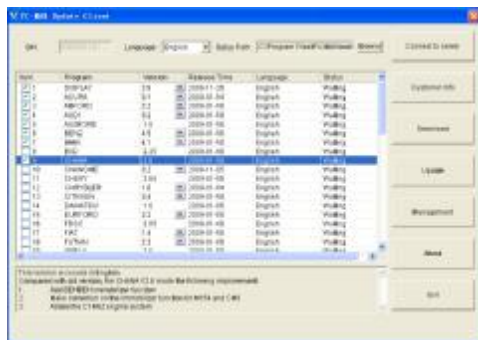

Fig.2-7 Download interface
- (1) Choose the language version and browse the setup path on the top of update client. The default path is "C:\Program Files\PC-MAX\work".
- (2) Tick the small box before the relevant program as shown in Fig.2-7;
- (3) Click on the button **[Download]** in right column to enter download status. Programs that are not downloaded are in black. If download succeeds, they will be highlighted in blue. Failed downloads are highlighted in red.
- (4) The programs will be downloaded to your PC hard drive automatically.